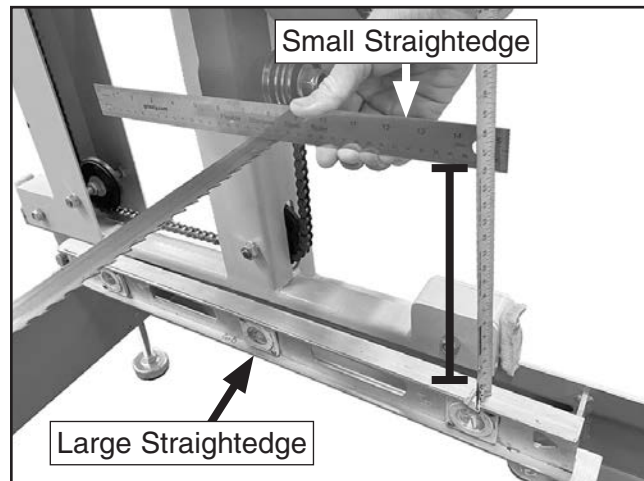

Figure 35. Distance between front of small straightedge and large straightedge.
6. Measure and record distance between front of small straightedge and top of large straightedge (see **Figure 35**).